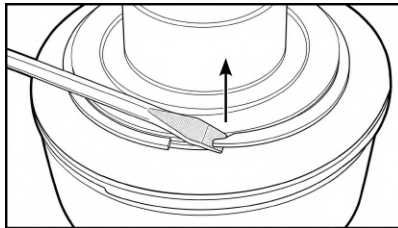

Fig. 16
- Using a flat-blade screwdriver, pry up the edge of the retaining ring and remove it. Then remove the magnet from the Electric Locker. (Fig. 16)